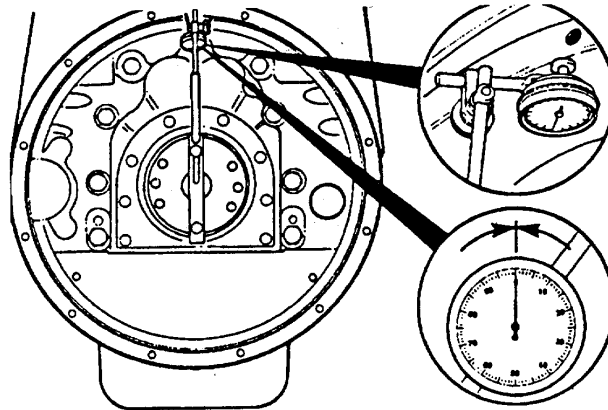

FIGURE 3-70. Measure Bore Alignment.
- (b) Use dial indicator gauge and the dial gauge attachment to measure the bore alignment. Attach the dial indicator to the crankshaft as shown in Figure 3-70 .